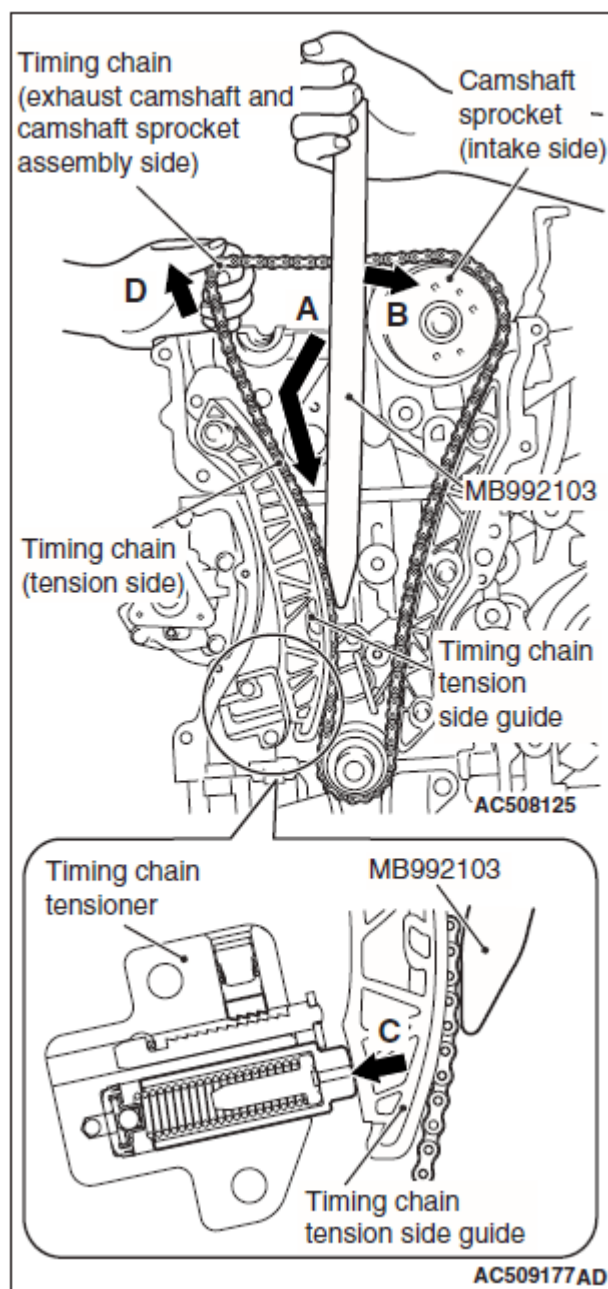

Fig. 48: Removing Flat-Tipped Precision Screwdriver Unlocking Timing Chain Tensioner
3. With the timing chain tensioner unlocked, insert special tool MB992103 inside the timing chain case assembly along the tension side of the timing chain until the insertion guide line aligns with the upper surface of the timing chain case assembly (**Fig. 48**.)
4. With the special tool inserted up to the insertion guide line, press the special tool MB992103 against the intake side camshaft sprocket (**Fig. 48**) and spread and hold the timing chain tension side guide (**Fig. 48**.)
6. Pull up the camshaft and camshaft sprocket assembly (exhaust side) mounting area of the timing chain (**Fig. 48**) to provide allowance for easy installation of the camshaft and camshaft sprocket assembly (exhaust side) to the timing chain.